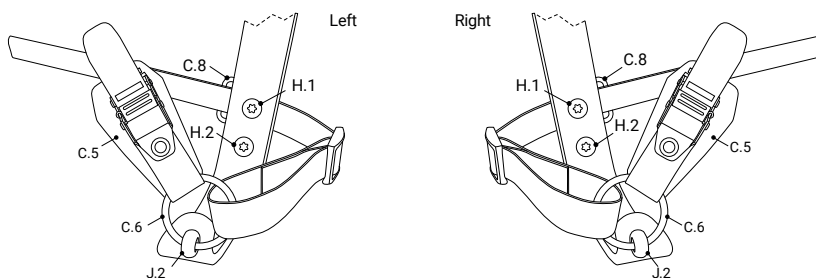

Figure 4: Lower Ratchet buckles straps
For the attachment you need two M8x9 eyebolts (J.2). Position as shown in Figure 4 or 5. Secure the eyebolts with a high-strength threadlocker.
Guide the keyring (C.6) through the eyebolt and position the strap and the buckle as shown in figure 4 or 5. The keyring must be guided completely through the eyebolt.
Loosen and remove the upper and lower gaff screws. Place the strap of the guide eyelet (C.8) into the recess between shank (A) and gaff (B). Position the guide eyelet as shown in figure 4 or 5. Use the supplied M8x25 screws (H.2) for the upper and lower gaff screws to secure the gaff to the shank. Make sure that the upper gaff screw is guided through the hole in the strap of the guide eyelet. Guide the Classic strap through the eyelet.